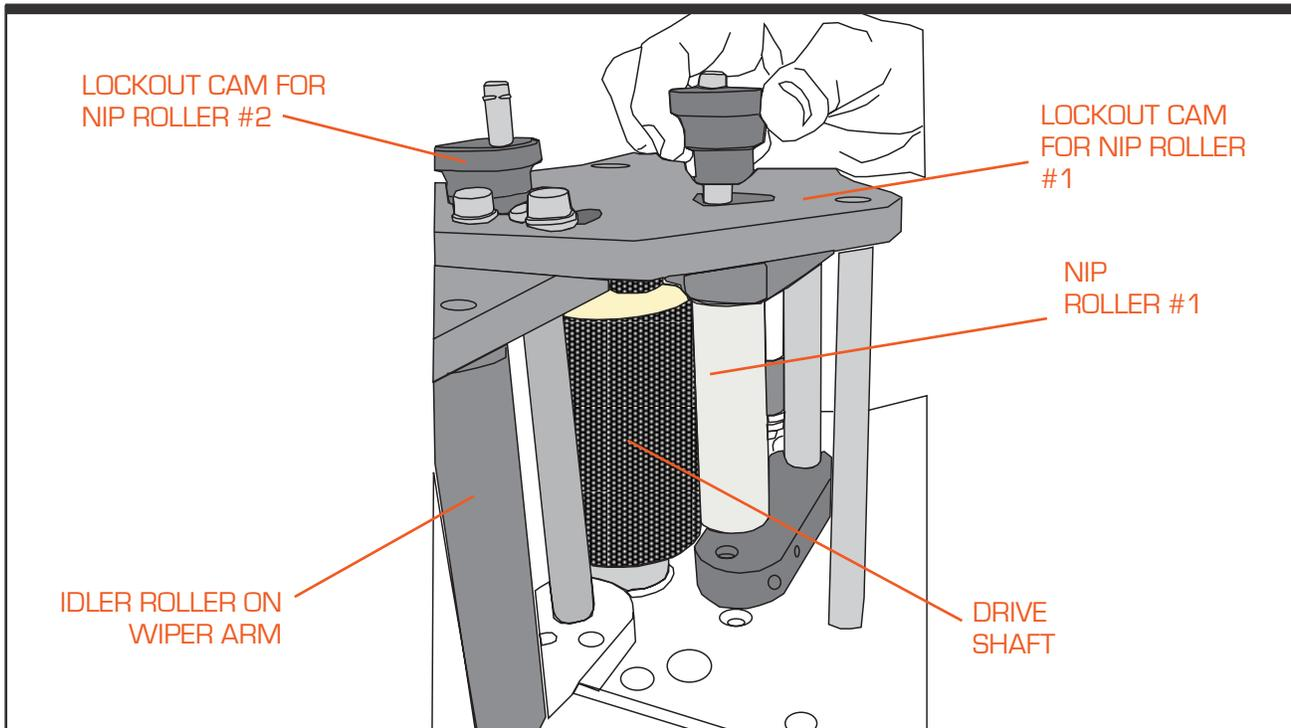

Figure 4-3. Lockout Knobs for Nip Rollers
- Step 4. The Nip Roller.** To thread the stock between the drive roller and the nip roller, you must first release the tension on the nip rollers. Lift up on the lockout knob on top of the face plate cover (see Figure 4-3) and rotate them 180°. Move each cam outward until the cams' locks drop back down into the slots. This locks the nip rollers away from the drive shaft. Thread the label stock between the nip roller (position #5) and the drive shaft.
- Step 9. Re-engage the Nip Roller Lockout Knobs.** Re-engage the nip roller lockout knobs by turning the knobs 180°, lifting up on the knobs and pulling them center towards the drive shaft (this should be tight, and maintain a firm grip on the knobs). Once the nip rollers are in place, push the knobs down into the openings on the front cover (see Figure 4-3).